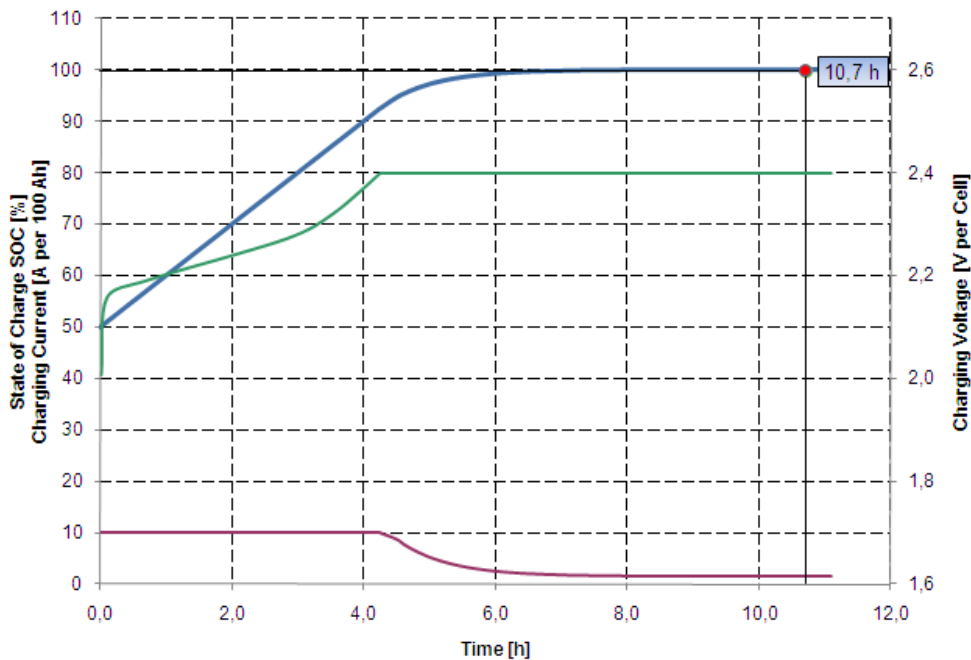
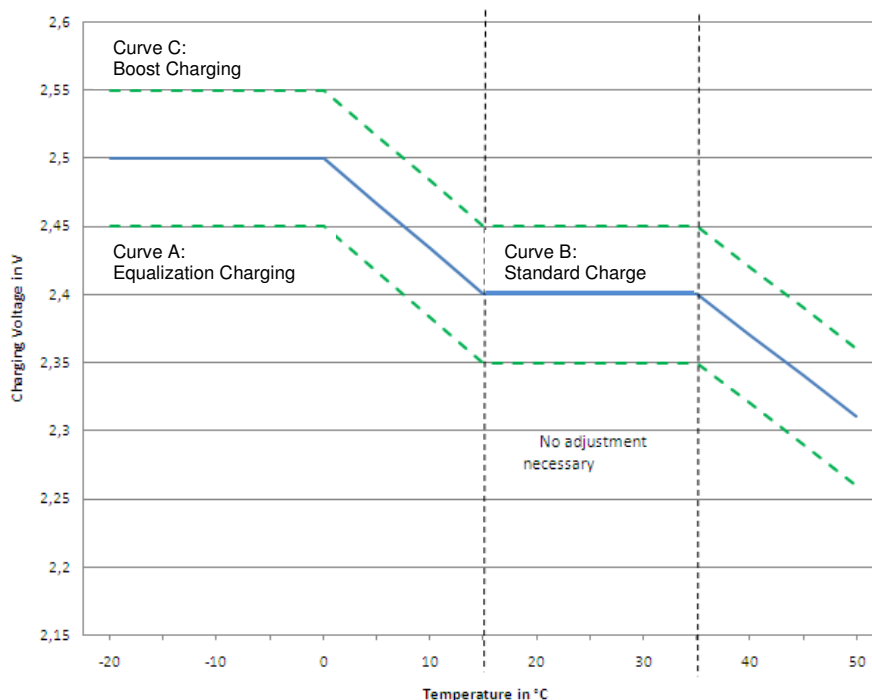

Figure 1: Charging characteristic of OPzV solar.power cell at 50% DoD
Figure 2 : charging voltage as a function of temperature in solar cycling operation
The chart below (refer to Figure 1) demonstrates the OPzV solar.power recharge characteristic (IU-characteristic) after a discharge of 50% DoD (Depth of Discharge).
Charging procedure shall be compliant to IU- or IU_a – characteristic (refer to example Figure 1 and to standard in /2/). Recommended charging voltages for cyclical applications² are depicted in Figure 2.
Charge with boost charge voltage (refer to curve C in Figure 2) for max. 2 hours per day. The charging voltage has to be reduced after max. 2h in boost voltage stage (refer to curve A in Figure 2).
Charge with standard charge voltage (refer to curve B in Figure 2).
- Max. 2.4 V/Cell up to 48 hours (refer to curve A in Figure 2)